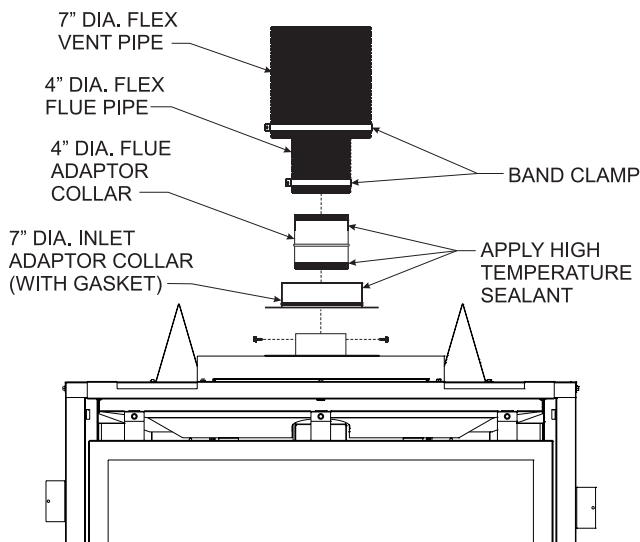

Figure 61
17. To attach the vent connections at the fireplace, be sure the 7 inch diameter adapter collar has been installed per step 3. Apply a bead of silicone sealant to the 4 inch diameter flex connector, then slide the flex pipe adapter collar into the fireplace flue collar and secure by installing a minimum of two screws through the flue collar and into the adapter. **See Figure 61.**
18. Apply sealant to the 7 inch diameter adapter collar, slide outer flex vent over the collar, then secure with a 7 inch diameter band clamp. **See Figure 61.**